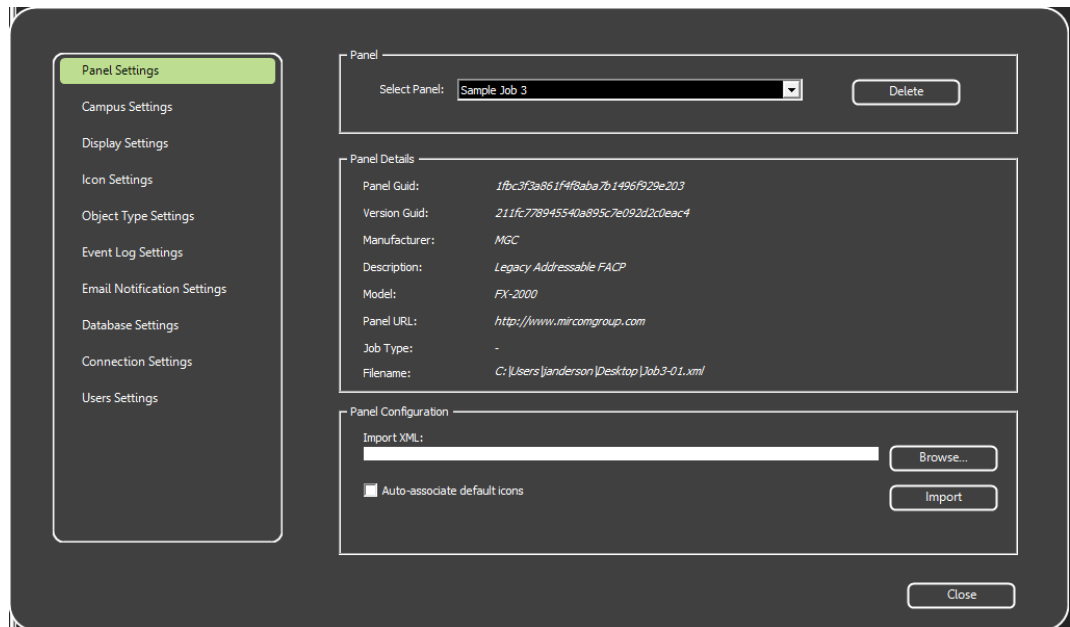

Figure 30 Panel Settings
1. Click the **Panel Settings** tab (see Figure 30).
The Panel Settings window appears (see Figure 30 on page 53).